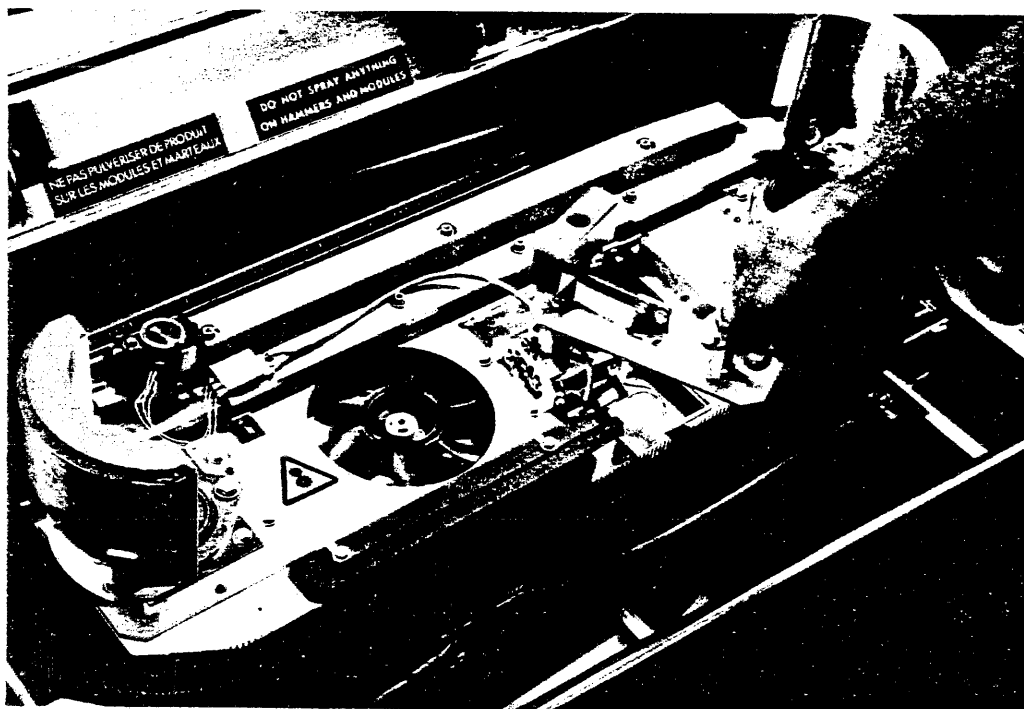

Figure 3-11. Releasing the Print Belt
2. Release the print belt by rotating the print belt release lever clockwise (Figure 3-11).